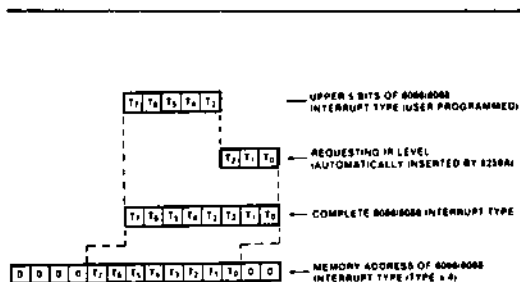

Figure 22. Establishing Memory Address of 8086/8088 Interrupt Type
**T3-T7:** The T3-T7 bits are used to select the interrupt type when the MCS-86/88 mode is used. The programming of T3-T7 selects the upper 5 bits. The lower 3 bits are automatically inserted, corresponding to the IR level causing the interrupt. The state of bits A5-A10 will be ignored when in the MCS-86/88 mode. Establishing the actual memory address of the interrupt is shown in Figure 22.